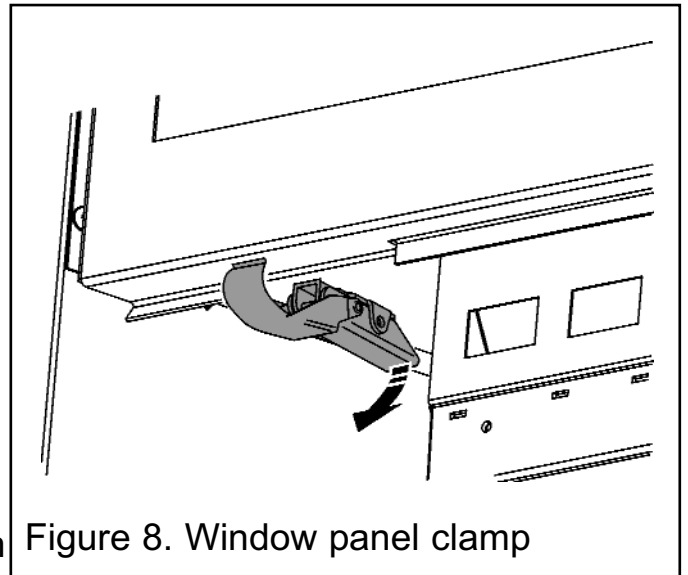

Figure 8. Window panel clamp
2. The window panel is secured at the bottom with two clamps. To release the clamps, hold at the rear and pull down (See figure 8).